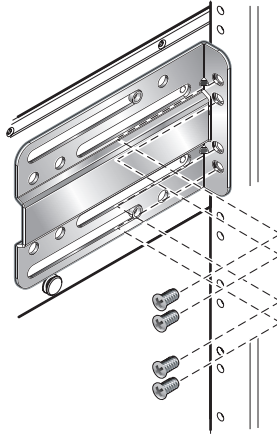

FIGURE 12-20 Detaching the Front Brackets From the Rack
2. Detach the front brackets from the rack (FIGURE 12-20).